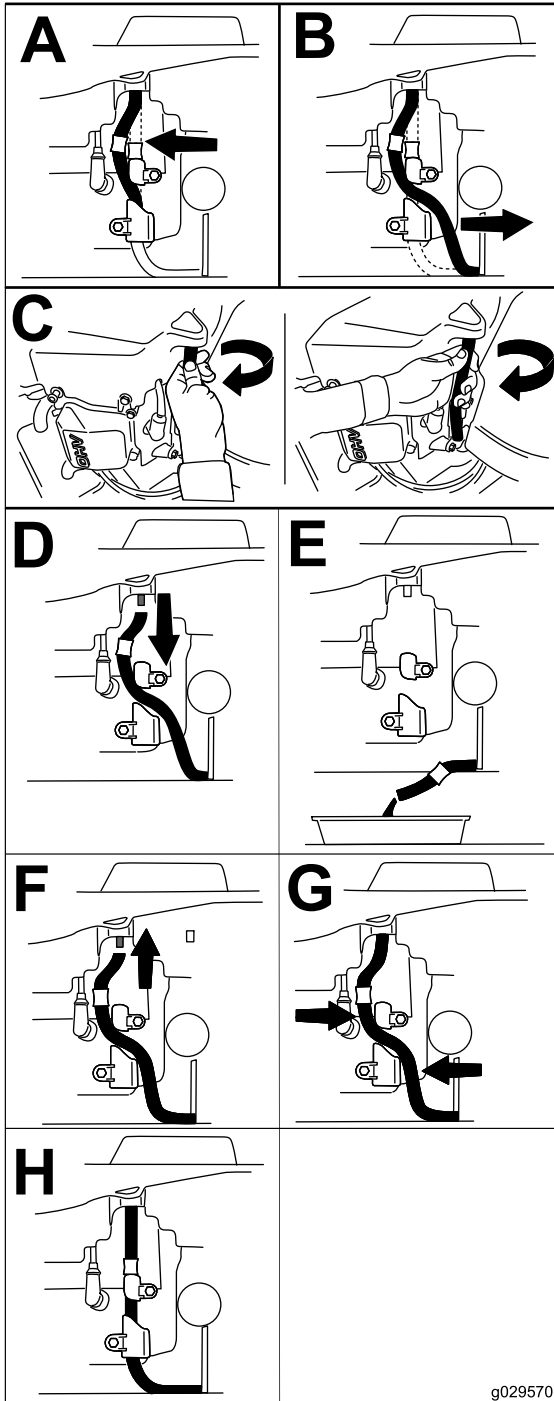

Figure 33
4. Drain the engine oil (Figure 33).